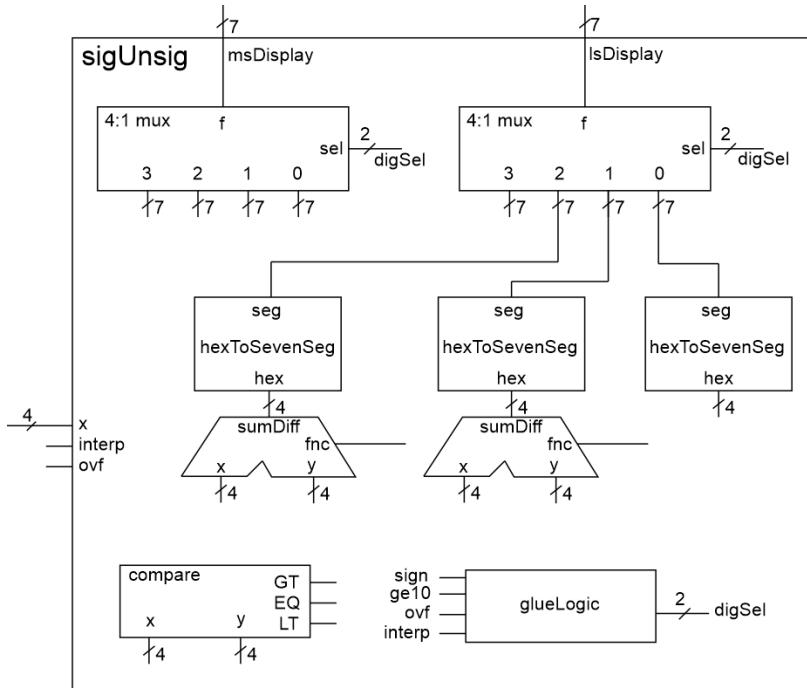

Figure 6.4: The internal architecture of the signUnsig module.
Listing 6.2: Logic that determines the output of the 4:1 muxes in Figure 6.4.
Now we are ready to put the pieces of the sigUnsig module together. The building blocks in Figure 6.4 are captured in the organization described by Listing 6.2, along with some extra hardware.
Complete Figure 6.4 by adding the following:
All that remains is to define the contents of the glueLogic box in Figure 6.4.
Now complete the truth table in Table 6.3 for the glueLogic box in Figure 6.4.
- Complete Figure 6.4, including: